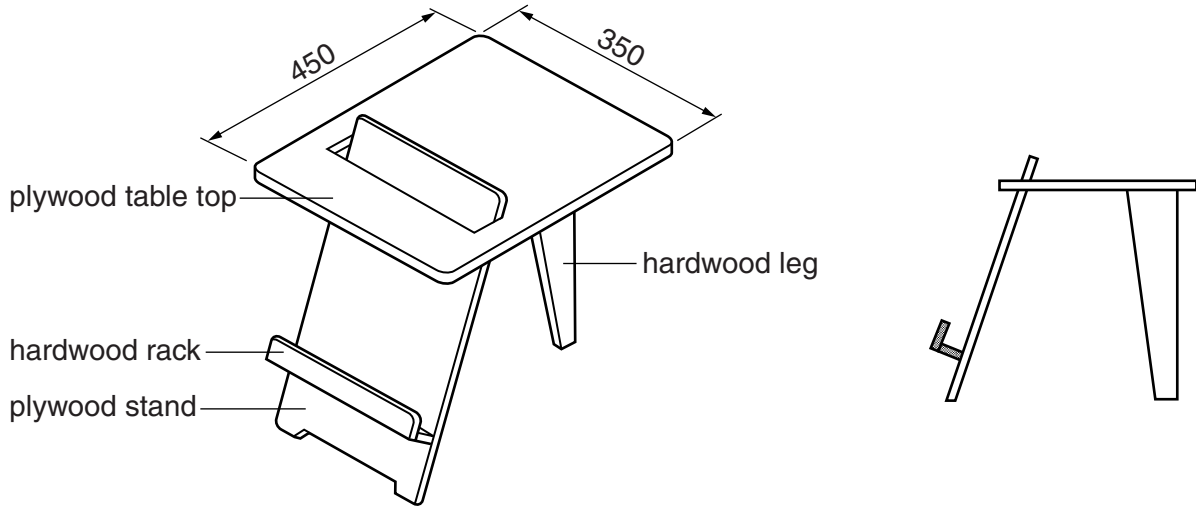

Fig. 7
- 11 Fig. 7 shows views of a small table that includes a magazine rack. The product is designed as flat-pack for self-assembly.
(c) Use sketches and notes to show how the stand could be joined permanently to the table top as shown in Fig. 7.